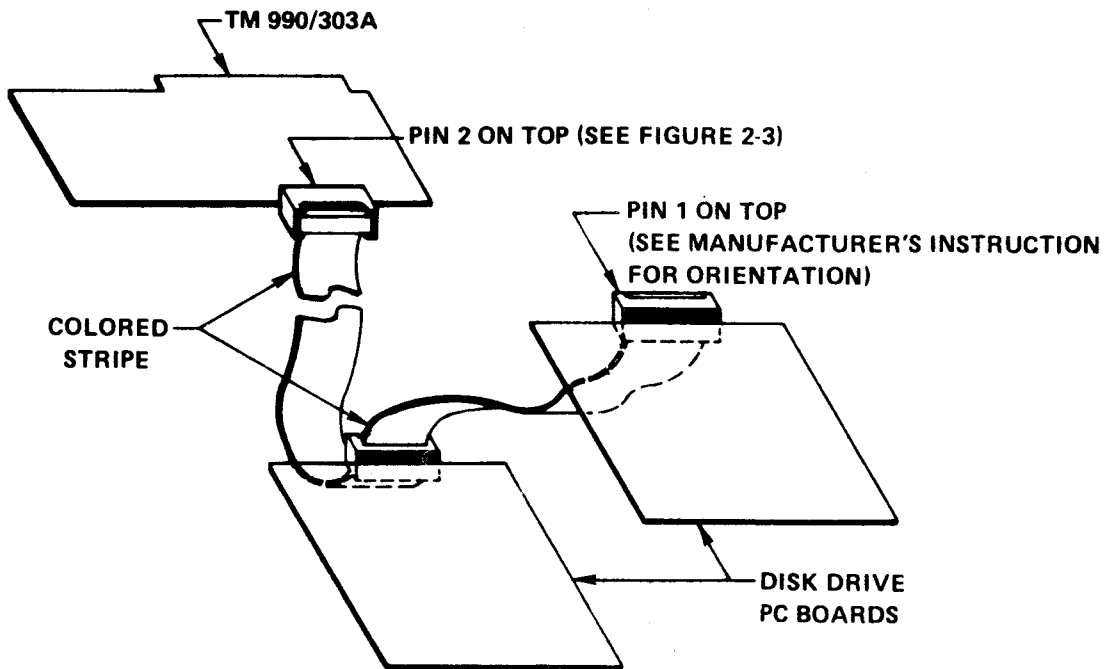

FIGURE 2-3. TM 990/527 CABLING BETWEEN CONTROLLER AND DISK DRIVES
- 5) Connect either one or both of the disk drive cable connectors to the disk drive(s). Consult the manufacturer's installation instructions for proper orientation of pin 1 on the disk drive connector. Pin 1 on the TM 990/527 cable is designated by an arrow engraved into the connector close to the side near the colored stripe. See Figure 2-3 for orientation. If pin 1 at the disk drive is on top of the edge connector, the arrow on the connector must also be on top, oriented with that pin.